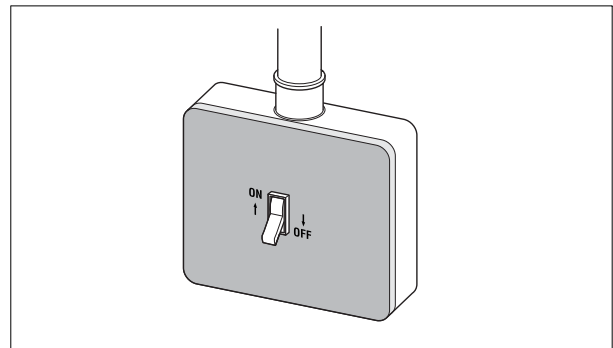

Fig. 3 Heating system control with Aquasmart control (main service switch)
**When using a Aquasmart control (Fig. 3)**
**With Aquasmart control (Fig. 3)**